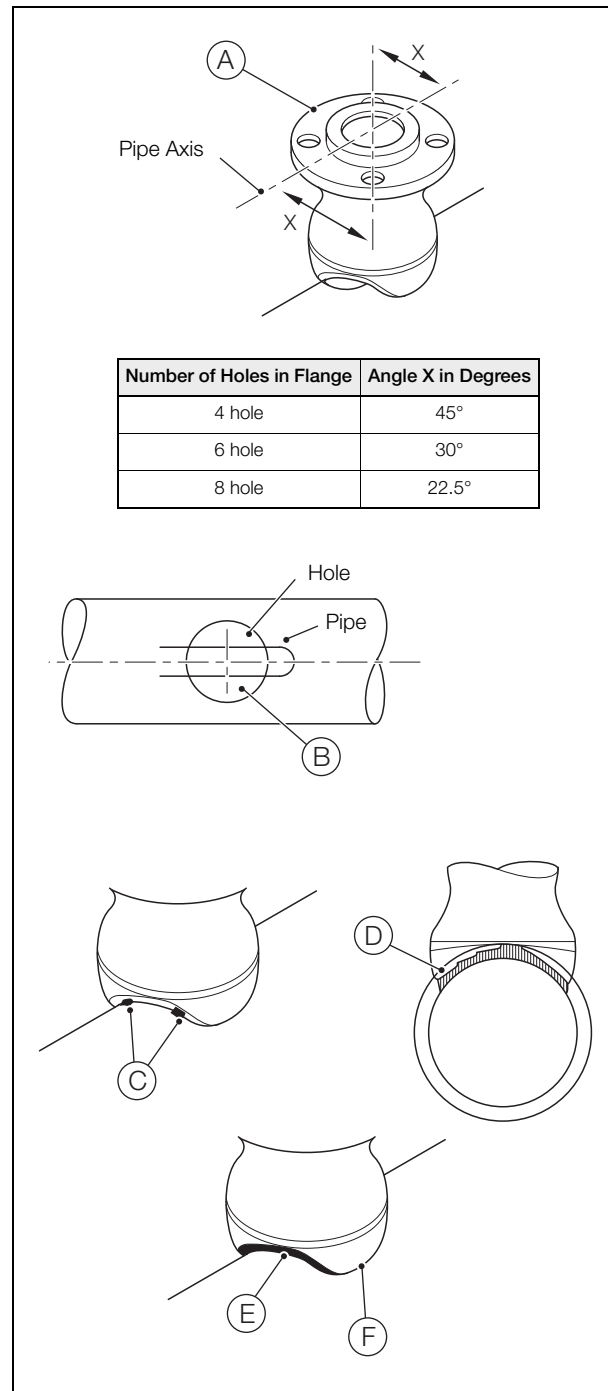

Fig. 2.17 Flanged Pipe Fitting (Stand-off) Installation
3. Referring to Fig. 2.17:
- a. Place the flanged pipe fitting (stand-off) (A) centrally over the drilled hole (models FPD350.T3.E1; FPD350.T4.(E1/E2); FPD350.T5.(E1/E2); FPD350.H7.E2; FPD350.H8.E2) or mark (Flanged models FPD350.T3; FPD350.T4.(E1/E2) and FPD350.T5.(E1/E2)) and align it correctly to the axis of the pipe (angle X) according to the number of bolt holes in the flange. Ensure it is perpendicular to the pipe axis and square to the pipe plane.
- b. Use suitable spacers (B) to raise the flanged pipe fitting (stand-off) off the pipe to establish the necessary gap for full-penetration welding.
- c. Tack-weld at four points (C) midway between the crotch and the skirt sections of the fitting.